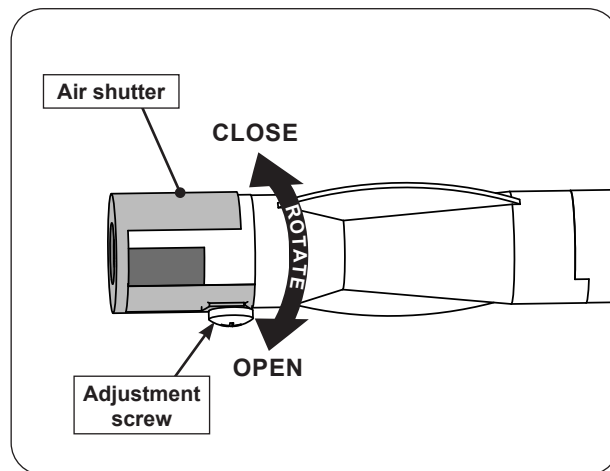

Fig. 48-1 Double side burner air shutter adjustment detail
2. Loosen the adjustment screw with a screwdriver, then carefully rotate the shutter to open or close it. See Fig. 48-1 for details.